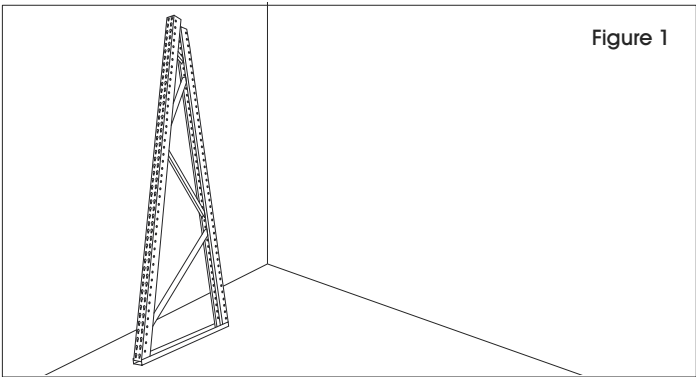

Figure 1
- 1. Lean one upright against wall or assemble with another person. (See Figure 1)